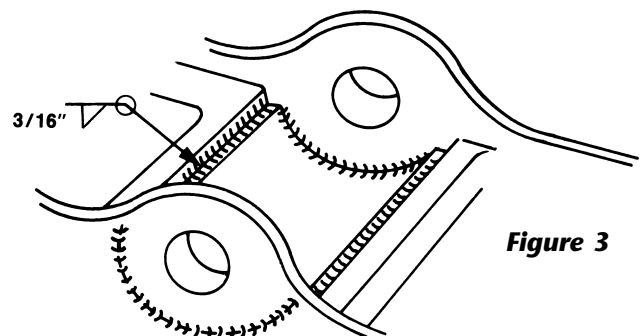

Figure 3
13. Remove the pivot pins and bracket caps and weld the pocket liner to the top plate casting, using skip-weld process (ie. similar to tightening lug bolts on a wheel) until a continuous 3/16" fillet weld is attained. See Figure 3.